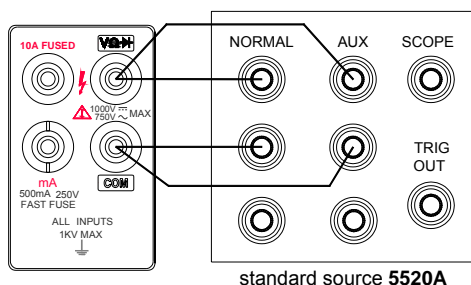

Figure 5-5
- 2) Connect the standard equipment with the meter as shown in Figure 5-5.